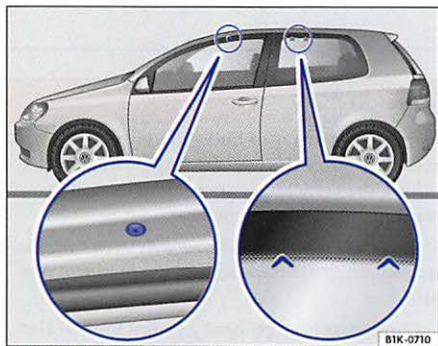
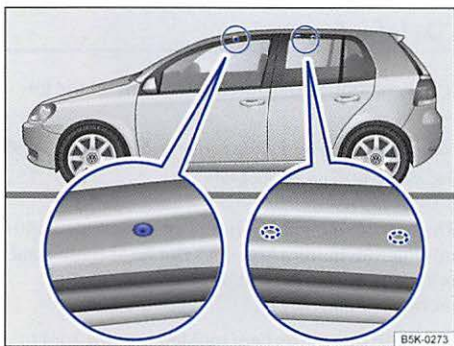

Fig. 94 Mounting points for the base carrier and roof rack on 2-door vehicles.
Fig. 95 Mounting points for the base carrier and roof rack on 4-door vehicles.
The front mounting holes are on the underside of the roof frame. They are sealed with plastic screws $\Rightarrow$ **fig. 94** (magnified view on left). The holes are only visible when the door is open. The rear markings for the base carrier are above the rear side windows $\Rightarrow$ **fig. 94** (magnified view on right).
The front mounting holes are on the underside of the roof frame. They are sealed with plastic screws $\Rightarrow$ **fig. 95** (magnified view on left). The rear markings for the base carrier are on the underside of the roof frame $\Rightarrow$ **fig. 95** (magnified view on right).
- Mount the roof rack base carrier only at the markings shown in the illustration $\Rightarrow$ **fig. 94** or $\Rightarrow$ **fig. 95**.